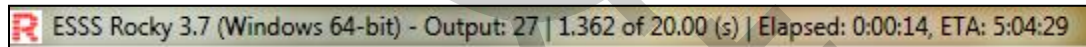

Figure 12: Example of Title bar progress information shown while a simulation is processing
- **Output:** The total number of Timestep files that have been saved thus far. In the example in Figure 12, the total number of output files is 27.
- **Current progress:** The particular second of the total Simulation Duration that Rocky is currently calculating. Note that Rocky calculates in finer detail than is typically determined by the Output Frequency in which it saves Timestep files. (See also Table 10: Solver, Time Configuration parameter options). In the example in Figure 12, though Rocky is currently calculating for second 1.362, because the output frequency is set to 0.05 seconds, it won’t actually save a 28th Timestep representing 1.4 seconds until the current progress reaches that point.
- **Elapsed:** Amount of real time since starting (or resuming) the simulation processing. In the example in Figure 12, 14 seconds have elapsed since the simulation was resumed.
- **ETA:** Rocky’s estimate of how much real time the simulation will take to complete. This is a rough approximation Rocky extrapolates based upon the amount of time the last several timesteps took to calculate. In the example in Figure 12, Rocky estimates that it will take roughly five hours for the 20 second simulation to complete. The ETA will get longer as more and more particles enter the simulation and it takes more time for Rocky to calculate each timestep. Should the simulation reach a point where more particles leave the simulation than enter it, the ETA will begin to get shorter.